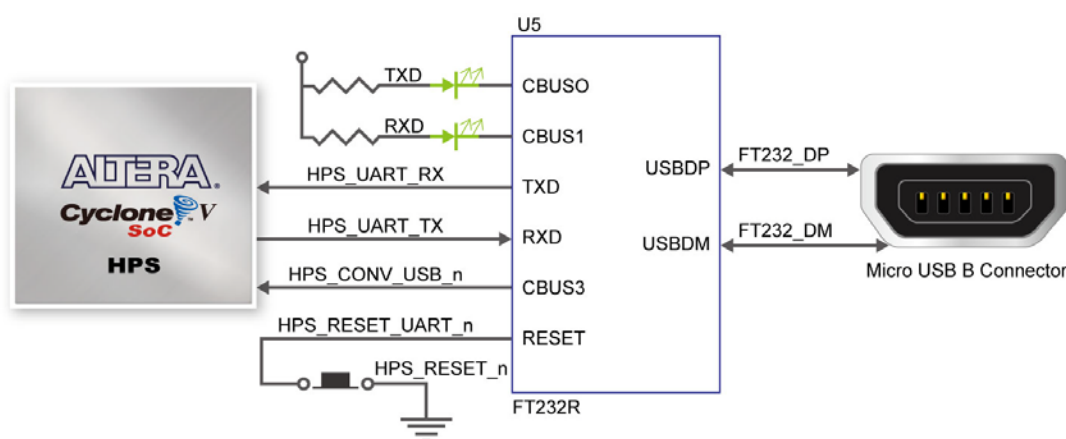

Figure 3-23 Connections between the Cyclone V SoC FPGA and FT232R Chip
The board has one UART interface connected for communication with the HPS. This interface wouldn't support HW flow control signals. The physical interface is done using UART-USB onboard bridge from an FT232R chip and connects to the host using a Micro-USB (B) connector. For detailed information on how to use the transceiver, please refer to the datasheet, which is available on the manufacturer's website, or in the Datasheets\FT232 folder on the SoCKit System CD. **Figure 3-23** shows the related schematics, and **Table 3-24** lists the pin assignments of HPS in Cyclone V SoC FPGA.